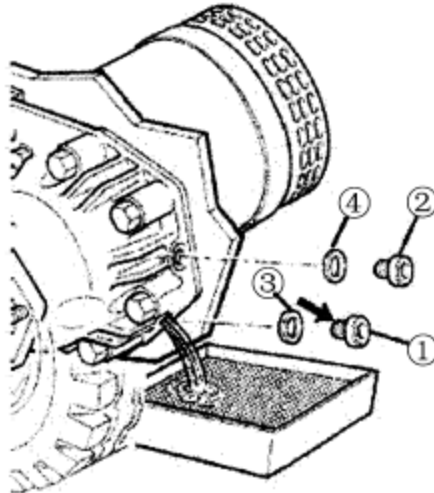

Figure 1-5
(6)Screw fluid filling plug (part 1) with the sealing ring (part 2).Tightening torque: 22Nm. Refer to figure 1-5.